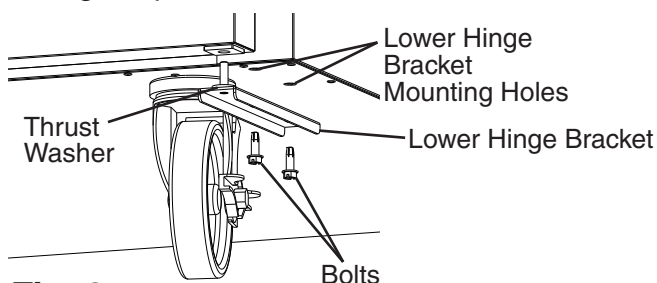

Fig. 9
- 5) Remove the lower hinge bracket. See Fig. 9. Be sure to leave the thrust washer in place.